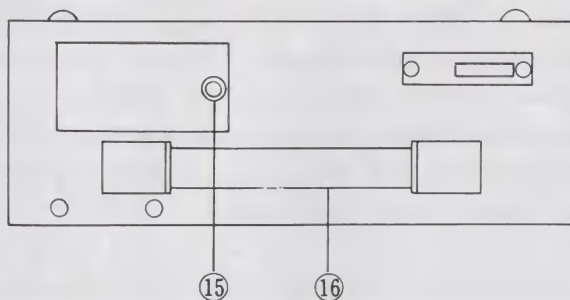

Fig. 1-2 Rear side of case.
- ⑥ SELECTOR switch: To be set at R, C, or L (resistance, capacitance, or inductance, respectively) depending on the component to be measured.
- ⑦ NULL indicator: 10-0-10 scale used for DC resistance measurements and 0-10 scale (at right of 0) for capacitance and inductance measurements.
- ⑧ Mechanical zero adjust for NULL indicator.
- ⑨ D, Q dial: With two scales, outer for dissipation factor, D, and inner for R_E (equivalent series resistance) calibrated for values at 1kHz. But actual equivalent series resistance must be calculated through 2.5 or 2.6 on page 10 and page 11.
- ⑩ $\times 1 - \times 10$ switch: Selects the multiplier for the D and R_E readings on the D, Q dial.
- ⑪ SOURCE switch: Selects the internal bridge operating source, DC for DC resistance measurements and AC at 1kHz for resistance, capacitance and inductance measurements.
- ⑫ RED HI
- ⑬ BLUE EXT. +DC
- ⑭ BLACK terminal: For grounding to the case.
B. Rear Side of Case, Fig. 1-2